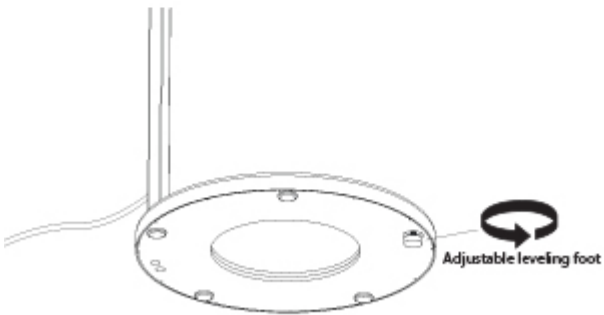

Figure 5
6. If your lamp is placed on uneven flooring, rotate the adjustable leveling foot under the weighted base to properly position your lamp. (Figure 5)